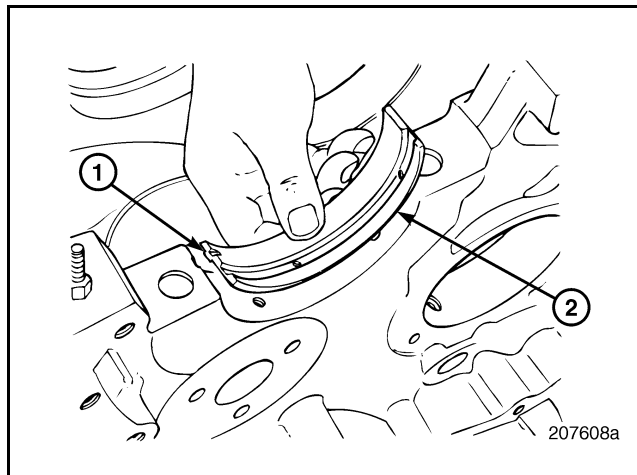

Figure 321 — Main Bearing Insert (Upper)
3. Place the upper half of the bearing insert in the cylinder block main bearing bore, making sure that the locating tab fits into the notch in the bore (Figure 321).